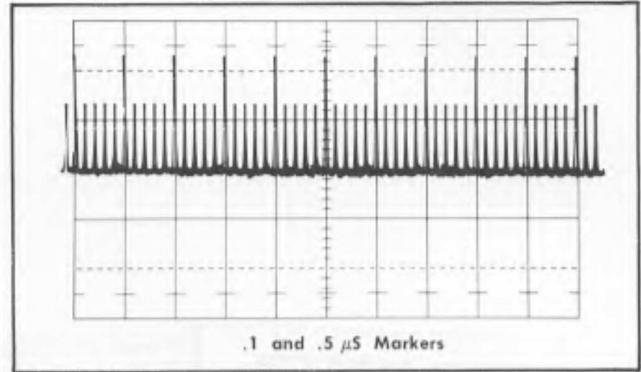

Fig. 6-8b. Typical display of .1 and .5 μS markers. C108 adjusted for accuracy of .5 μS markers. T-18 adjusted for uniformity of the .1 μS markers.
- g. Adjust L19 and C108 simultaneously for proper count of the .5 μS markers and uniformity of the .1 μS markers. See Fig. 6-8b.